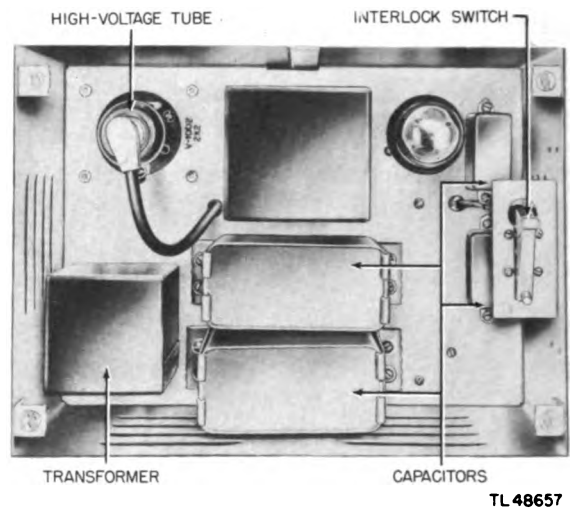

Figure 4-43. 4-kv supply, top view.
(1) Remove the remote-B unit from the remote-B assembly.
(2) Remove the three cables from the 4-kv supply.
(3) Remove the six mounting screws around the base of the 4-kv supply. Take off the top cover and lift the chassis from the remote-B unit.
(4) Unfasten the bottom cover.
c. Maintenance Procedure (figs. 4-43 and 4-44).